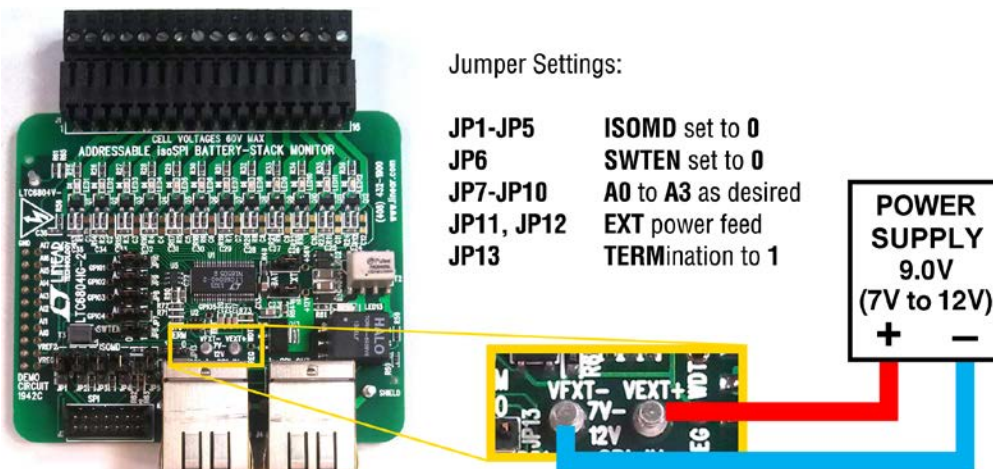

Figure 1. Connections and Jumpers
1. Set jumpers on the board per Figure 1.